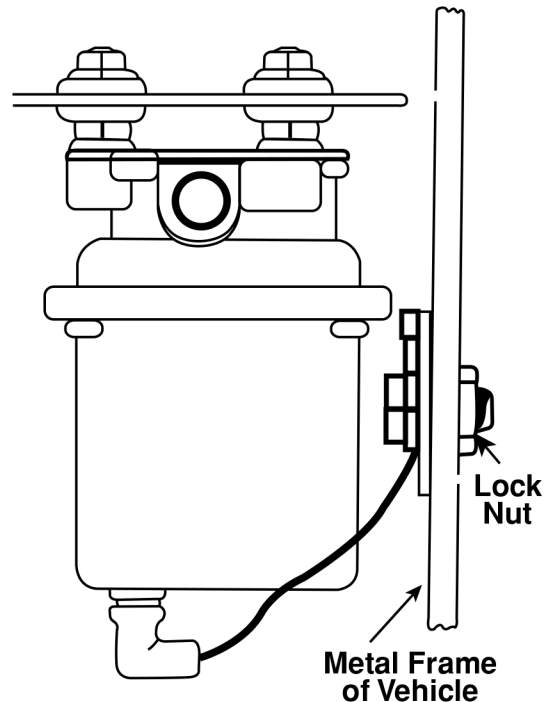

Fig. 1
3. Select the best location along the fuel line, away from heat and road splash, and as close to the fuel tank as possible. It is recommended that pump be mounted on the frame, never more than 24 inches above bottom of gas tank. MOUNT PUMP WITH ELECTRIC TERMINAL POINTING DOWN AS SHOWN. (See Fig. 1) For safety reasons and improved performance, DO NOT MOUNT PUMP IN TRUNK. Cut out section of fuel line as desired to make an easy installation.
4. Use mounting bracket as a template to drill two 1/4" holes in frame. Position pump on bracket as indicated in Fig. 1. The "IN" port of pump must be connected to the line running from gas tank. Push rubber grommet in appropriate holes. Push pump studs through rubber grommet, using a flat washer on each side of the rubber grommet, and tighten down evenly with lock washers and nuts.